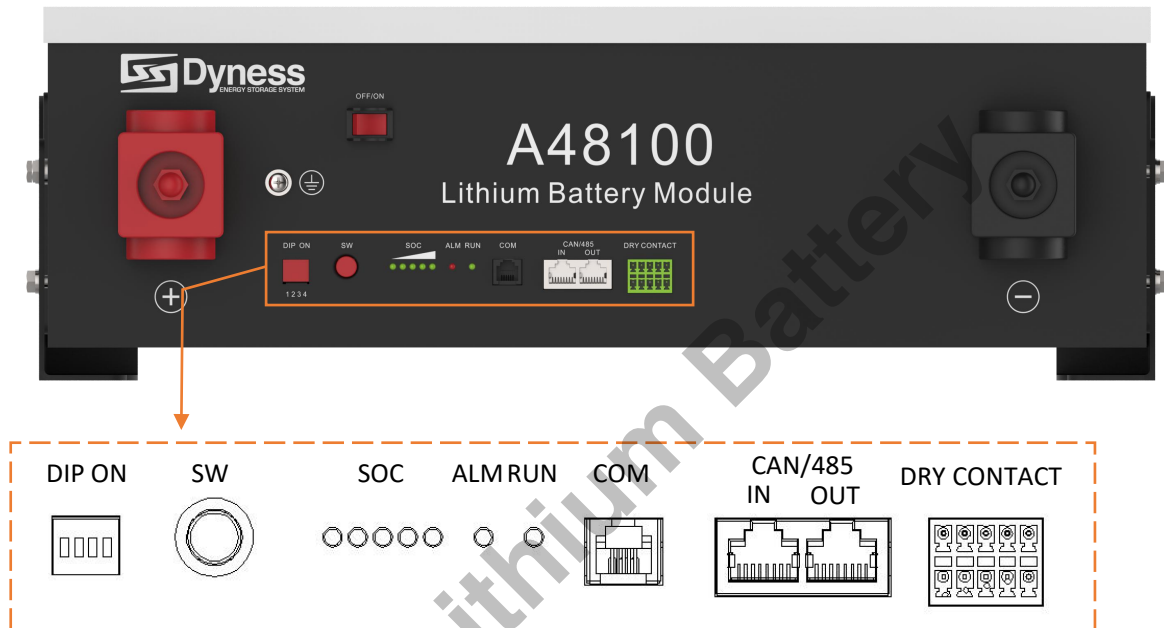

Figure4-1
2. After the indicator self-test, the RUN indicator will light and the SOC indicator will be on (100% SOC status in the Figure4-1).